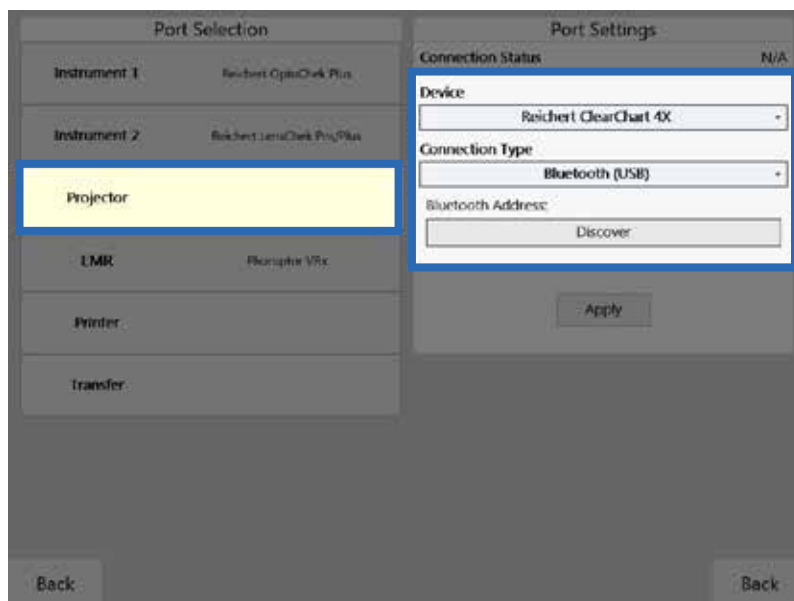

Figure IS-19, Device & Connection Type
6. Set the Connection Type to **Bluetooth (USB)**. Refer to Figure IS-19.
10. Tap **Discover** on the Ports page and the Phoroceptor VRx will search for all available ClearChart Digital Acuity Systems. Refer to Figure IS-19.